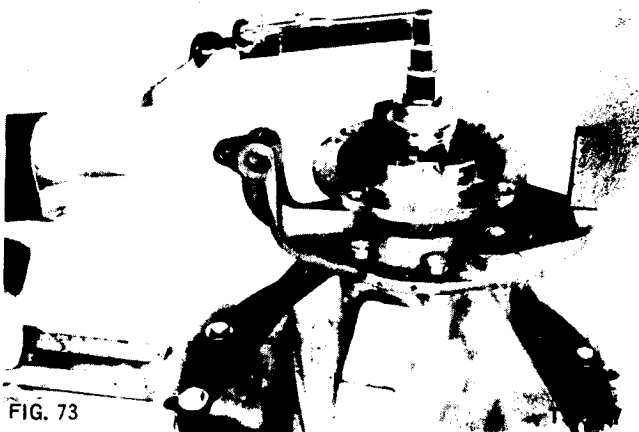

FIG. 73
8. Use "inch pound" torque wrench to check bearing preload (Fig. 73). If bearing preload is not between 13 and 23 in. lbs., disassemble parts and add shims to decrease preload or remove shims to increase preload. If preload is satisfactory, remove nut, adapter and flanged adapter.